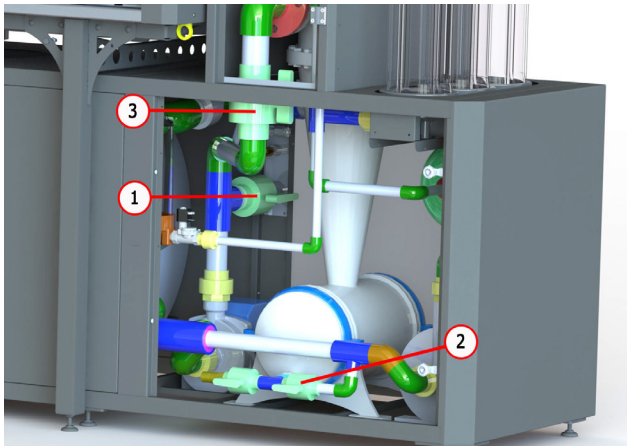

Figure 48
2. Open valves 1 and 2 and close valve 3 (see Fig. 48).